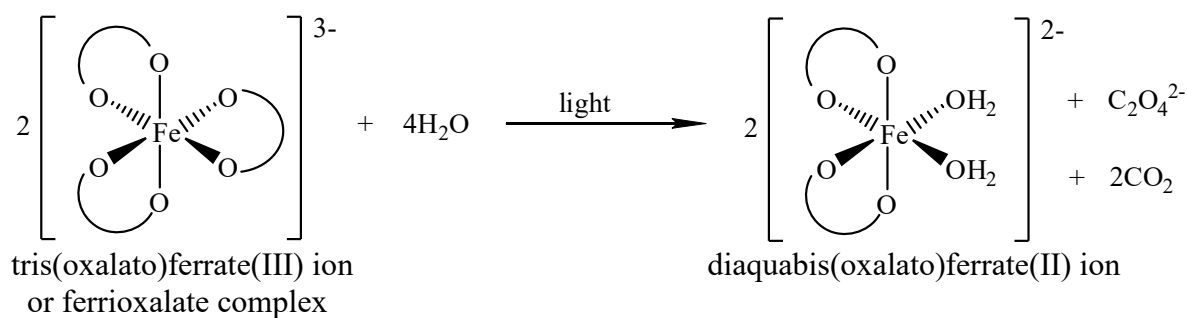

Figure 4: The photochemical reaction of ferrioxalate
When the ferrioxalate complex absorbs light energy, it undergoes photoreduction, where the light causes an internal electron transfer. Iron(III) is reduced to iron(II) and one of the oxalate groups is oxidised to CO_2 , as shown in Figure 4.